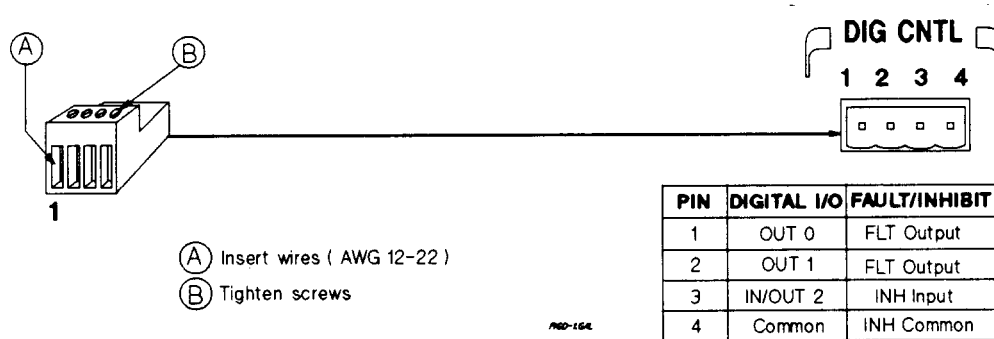
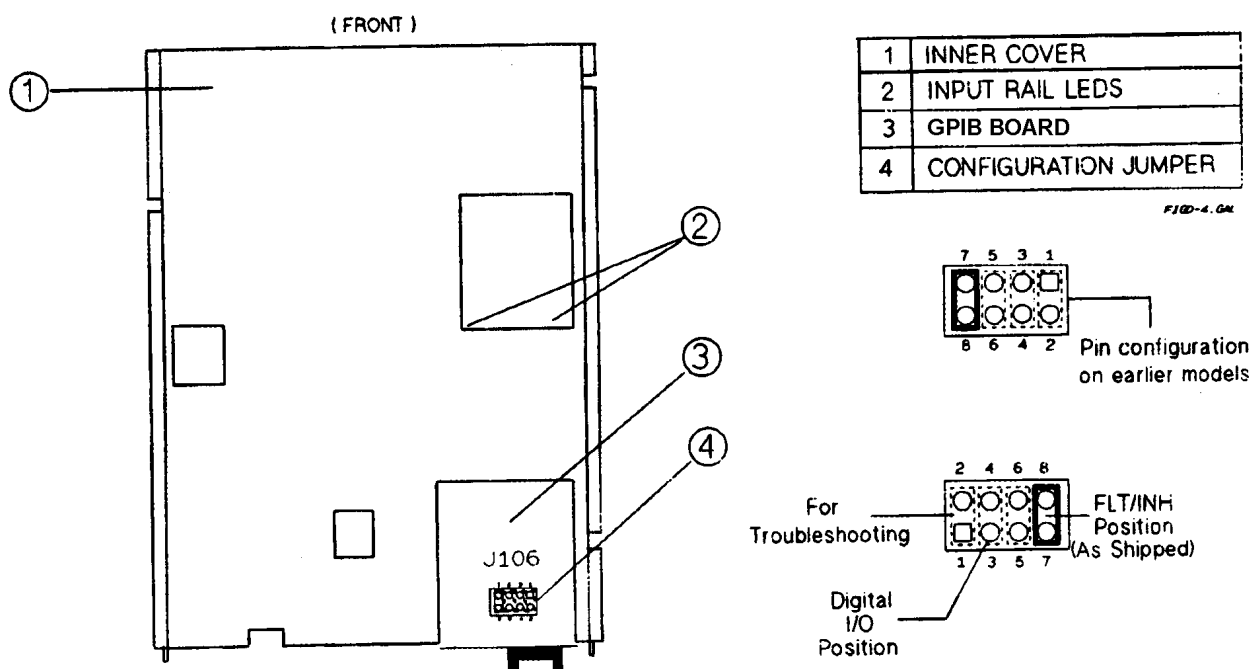
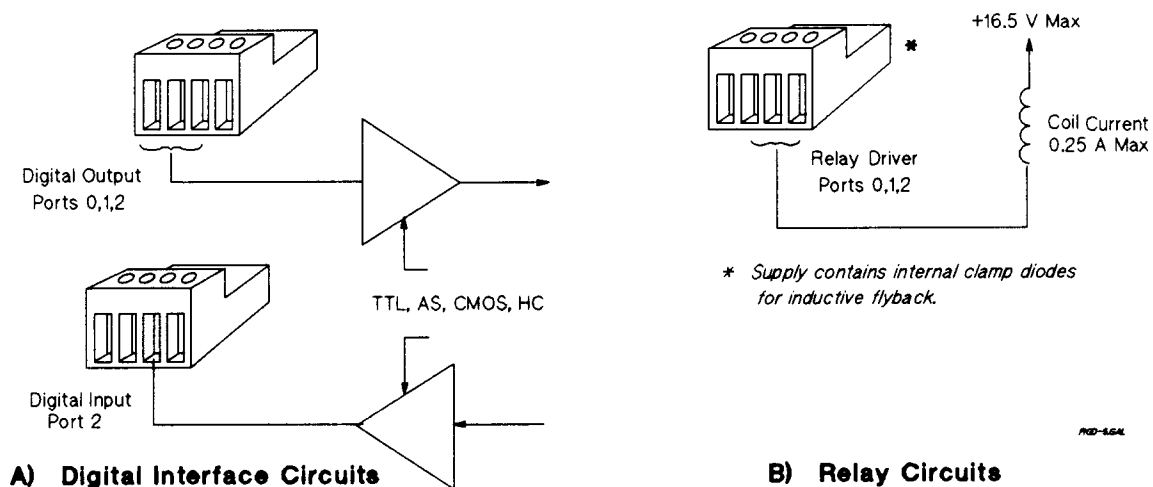

Figure D-1. Digital Port Connector
Figure D-4. Digital Port Configuration Jumper
Figure D-5. Digital I/O Port Applications
A 4-pin connector and a quick-disconnect mating plug are provided for digital input and output signals (see Figure D-1 for wiring connections, and Table 1-5 in Chapter 1 for electrical characteristics). This digital port can be configured to provide either Fault/Inhibit or Digital I/O functions.
As shipped from the factory, the digital port is configured for FLT/INH operation. You can change the configuration of the port to operate as a general-purpose digital input/output port to control your custom circuitry as shown in Figure D-4. To change the port configuration, you must move a jumper on the GPIB board.
5. Refer to Figure D-4 and use needle-nose pliers to move the jumper to the Digital I/O position.
The digital port can be configured (see Figure D-4) to provide a digital input/output to be used with custom digital interface circuits or relay circuits. Some examples are shown Figure D-5. See Figure D-1 for the pin assignments of the mating plug and Table 1-5 for the electrical characteristics of the port. See **DIG:DATA[:VAL]** in "Chapter 3 - Language Dictionary" of the Programming Guide for information on programming the port. The digital port pins are as follows:
The digital port can be configured to provide relay control outputs for the Agilent 59510A or 59511A Relay Accessory. Refer to Figure D-1 for the pin assignments of the mating plug.